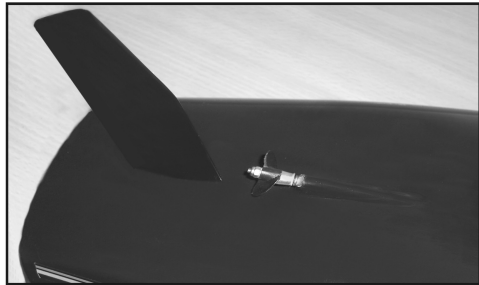

Figure 3b
- Push the rudder with the rods into the body of the boat from below as shown in figure 3b. Put a little sizing grease into the guide tube for sealing.